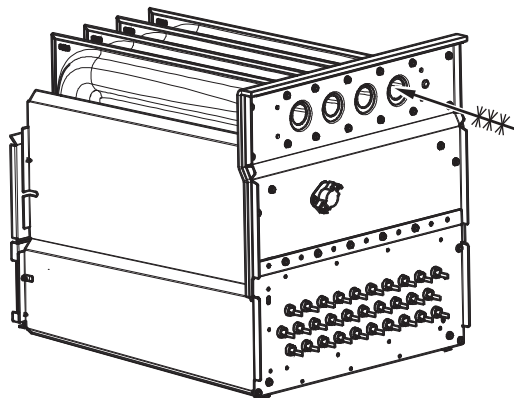

Fig. 67 – Cleaning Heat Exchanger Cell
7. Clean heat exchanger openings with a vacuum and a soft brush. See Fig. 67.